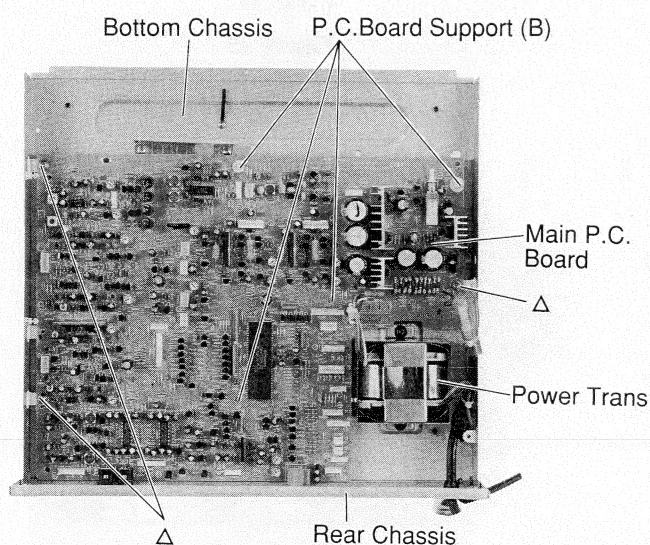

Figure 12
- (1) After removal of the front panel and dolby P.C.Board, remove five screws marked "Δ" as shown in Figures 12 and 13.
- (2) Remove four P.C.Board supports (B), by pushing "B" point as shown in Figures 12 and 11.
- (3) Disconnect all wires from the P.C.Board.